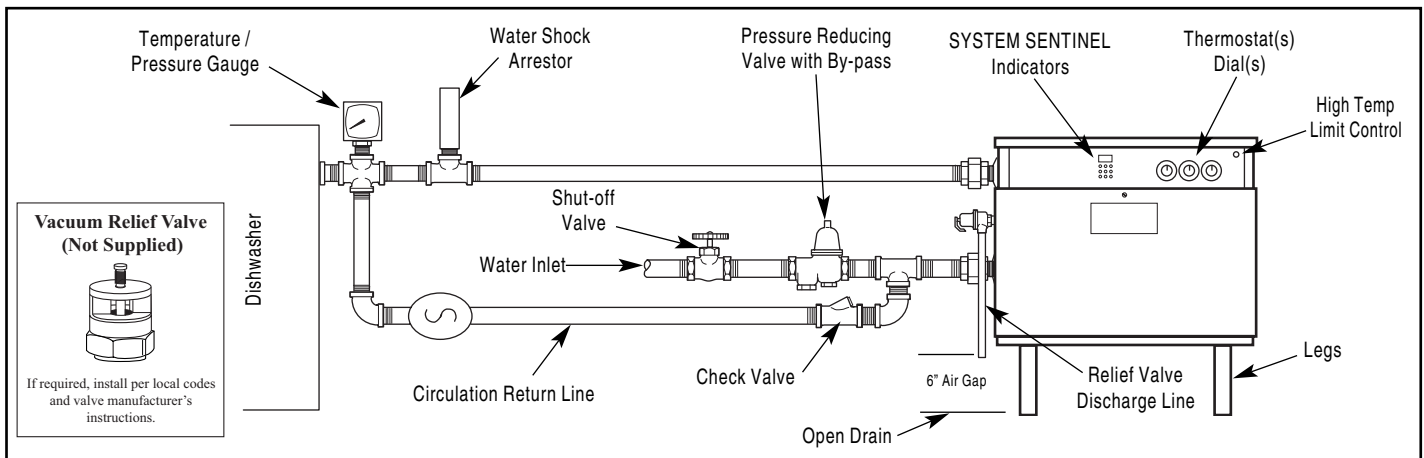

Figure 1. — Recommended installation for dishwashing sanitizing rinse application
- 1. INSPECT SHIPMENT**—for possible damage. The manufacturer's responsibility ceases upon delivery of goods to the carrier in good condition. Any claims for damage, shortage in shipments, or non-delivery must be filed immediately against carrier by consignee. Refer to Fig. 1 for installation with commercial dishwasher to provide